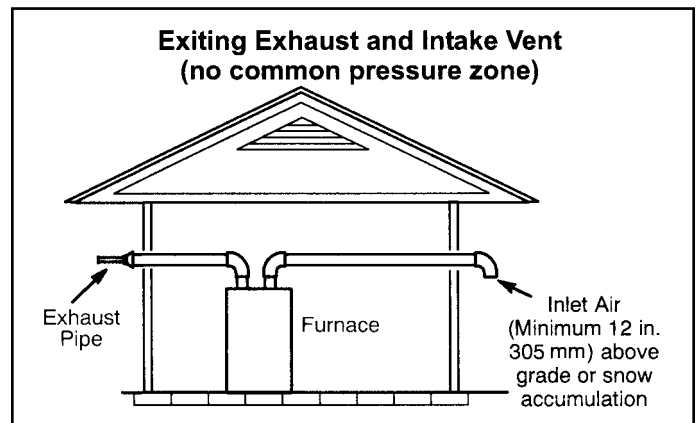
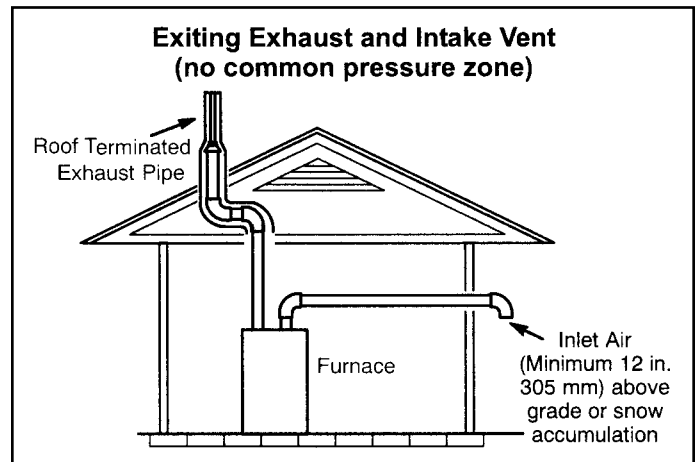

Figure 32.
Figure 33.
NOTE - If insulation is required in an unconditioned space, it must be located on the pipe closest to the furnace. See Figure 33.
1. Vent terminations are not required to be in the same pressure zone. You may exit the intake on one side of the structure and the exhaust on another side (Figure 32). You may exit the exhaust out the roof and the intake out the side of the structure (Figure 33).